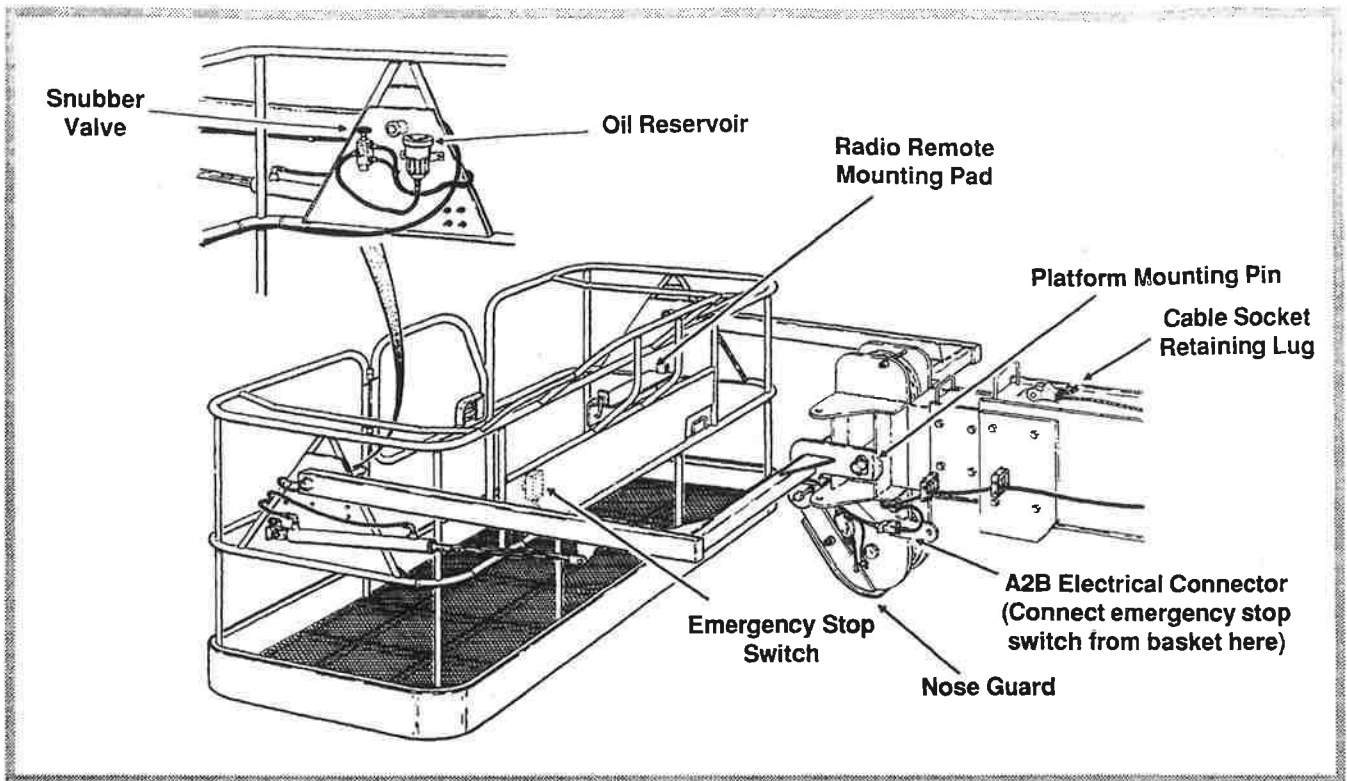

Figure 3-10. Personnel Platform and Support Installation. (Gravity Basket)
(OPTION) (See Figure 3-10.)
(See Figure 3-10)
4. Attach cable socket assembly to lug on top of base boom and secure with clevis pin. (See Figure 3-10.)
7. Align nose guard plate mounting holes and fly boom cable retaining pin holes and secure plate with pins and hardware provided. (See Figure 3-10.)